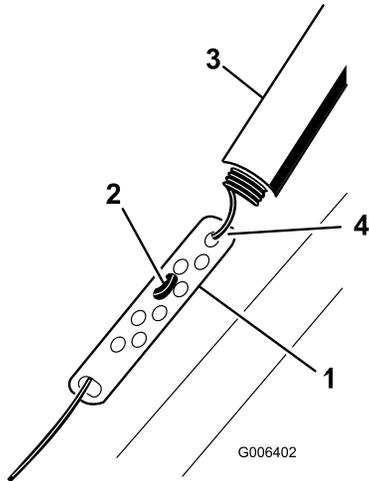

Figure 9
- Slide up the spring cover and unhook the spring from the adjuster link (Figure 9).
- Move the Z-fitting to a higher or lower hole on the adjuster link as needed to obtain the 2 to 3 mm (1/16 to 1/8 inch) gap between the control bar and the handle (Figure 9).